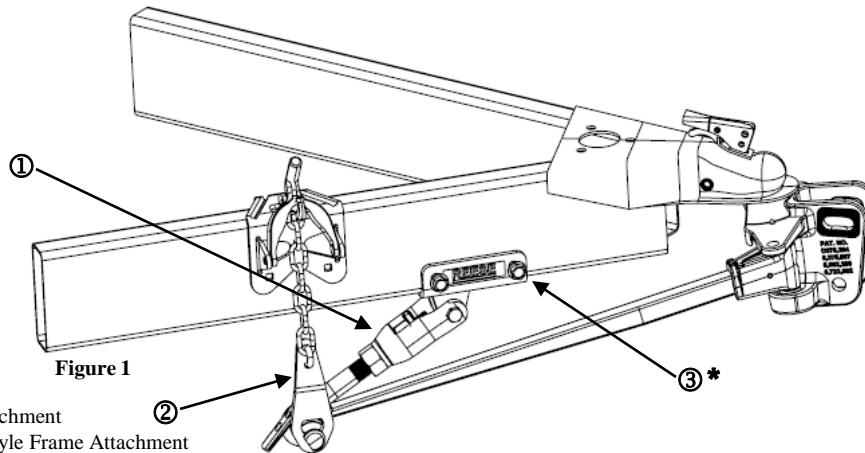
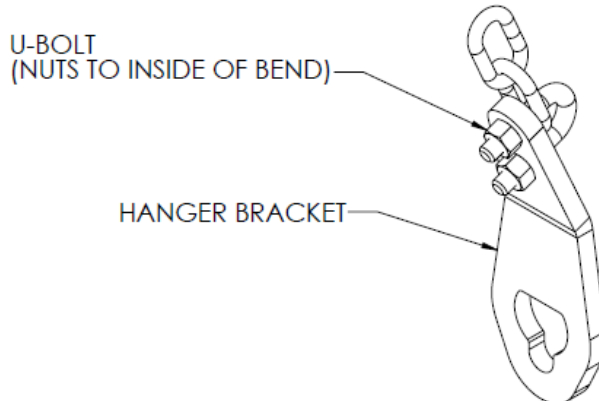

Figure 1
Figure 3
1. Locate both hanger brackets included in the kit (item 2, figure 1). Install U-bolt and chain from your Weight Distribution Kit on each hanger bracket as shown in figure 3 (if installing Dual Cam HP on an existing weight distribution kit, the U-bolts and chains will need to be removed from each spring bar before they can be installed on the hanger brackets).
The U-bolts must be installed in the ends of the chains (last link) as shown in figure 3.